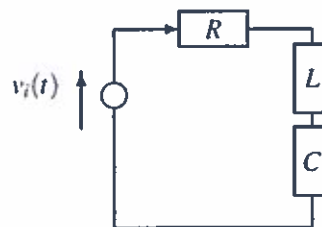

Figure 1.1
1. a) Figure 1.1 below illustrates an RLC circuit with the standard interpretation of symbols. The input is $v_i(t)$ and the output is $q(t)$, the capacitor charge.